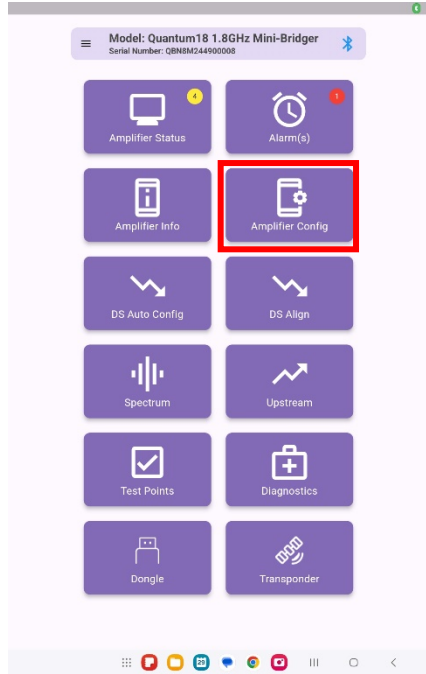

Figure A- 7: Amplifier Config Tile
3. From the Home screen, select the Amplifier Config Tile, see Figure A-7.